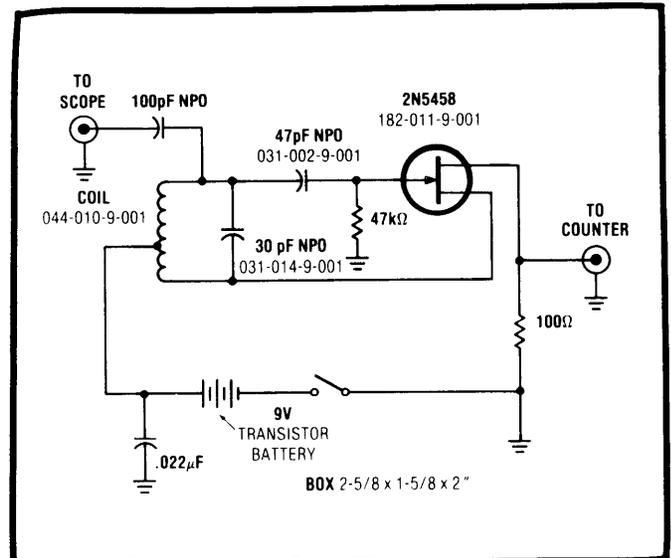
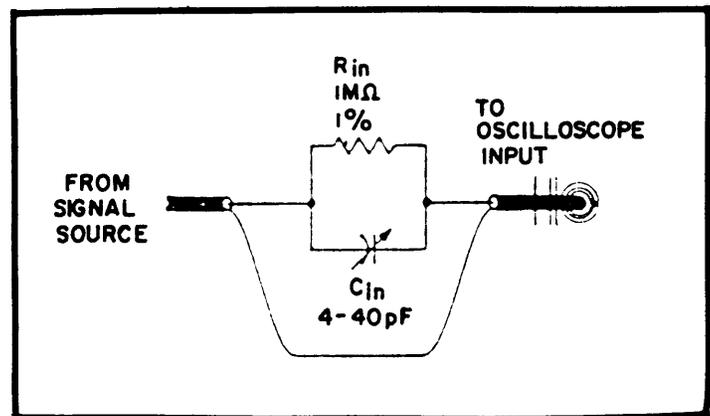

Fig. 18. Schematic of Test Oscillator for Input Capacitance Adjustment.
Fig. 19. Network for Alternate Input Capacitance Adjustment.
Fabricated RF Oscillator (Fig. 18).
The object of this procedure is to equalize the input capacitance for all sections of the vertical attenuator. This is accomplished by first using the non-adjustable capacitance of the input FETs on the non-attenuated range (5 mV/div) as reference, then trimming the input capacitor of each attenuator section to match. A measurement corresponding to the reference capacitance is established by connecting it as the tuning capacitor of a test oscillator (Fig. 18). This causes the test oscillator to operate at a reference frequency. The reference frequency is measured on a fre-
1. Build the test oscillator shown in Fig. 18 and connect it to the frequency counter and the CH A input of the oscilloscope as shown. No input signal is applied during this procedure
An alternate method of adjusting input capacitance, although not as accurate as the previous method, may be used if the test oscillator of Fig. 18 is not available. This method requires the simpler network shown in Fig. 19. This network is essentially a 2:1 probe, since the 1 MΩ resistance of the network and the 1 MΩ input resistance of the vertical attenuator form a voltage divider. A 10:1 probe could also be used, except that a square wave of at least 100 volts p-p (not commonly available) would be required for adjustment of the 5 V/div attenuator setting.
- Connect the network of Fig. 19 between a square wave generator and the CH A INPUT of the oscilloscope.